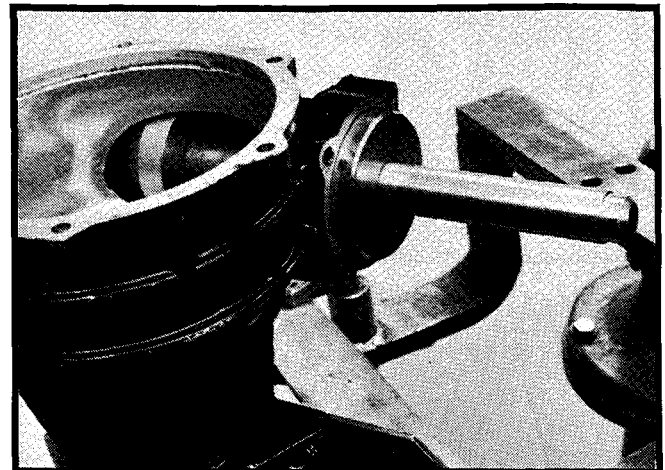

Figure 13.
6. The worm bearing cups are installed by using the worm bearing cup driver, part No. 880026, as shown in Figure 13.